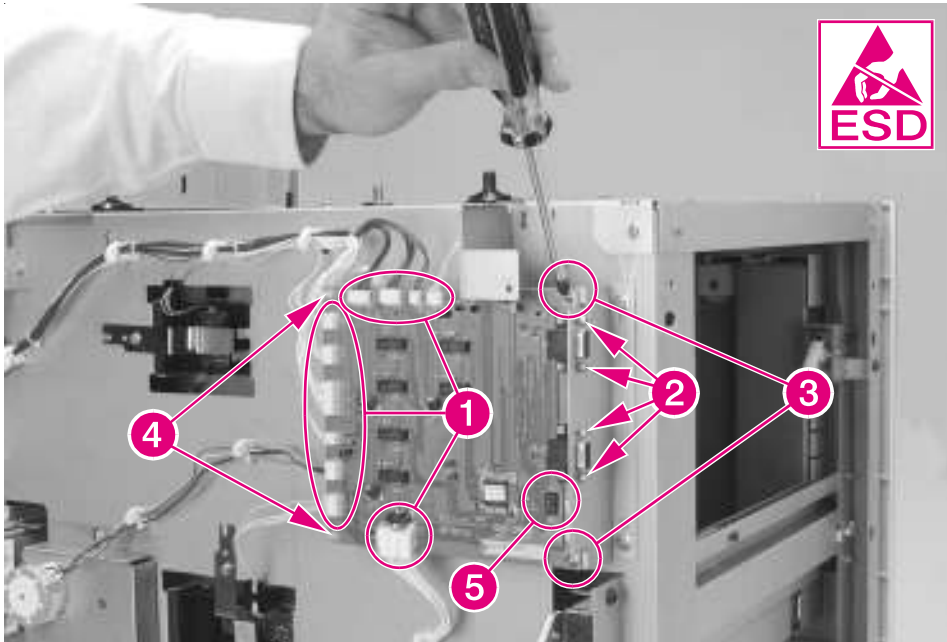

Figure 6-71 2000-sheet Input Tray Controller PCA
- 2 Disconnect the 11 cables from the Controller PCA on the 2000-sheet Input Tray (figure 6-71, callout 1).